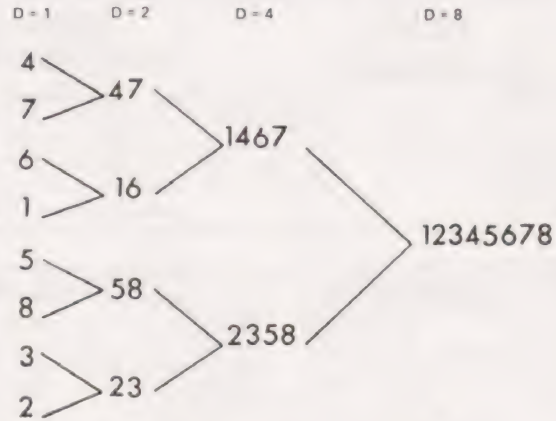
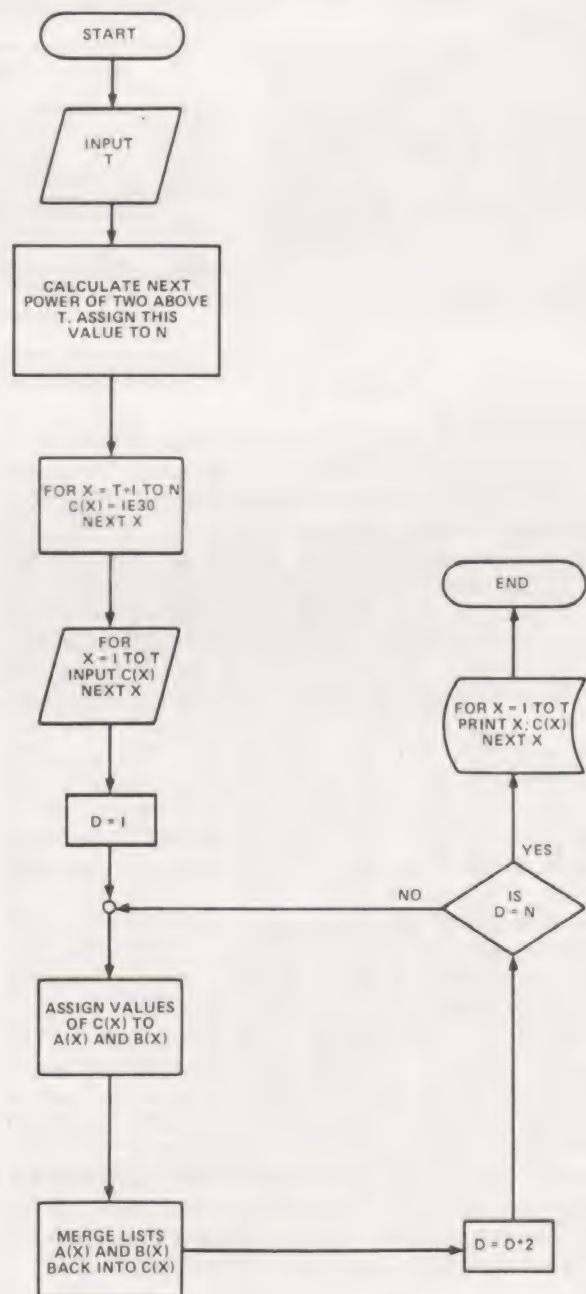

Fig.2. The 'Merge-Sort' process.
Fig.3. The 'Final Programme' flowchart.
We now have two sets of four numbers, each set being in numerical order. The final process is to merge these two lists of four items into one list of 8 items and the sort is complete (see Fig.2). The flowchart of this algorithm is given as Fig.3. The program is given below.
The program starts off by taking an input to the variable T. This is used to tell the program how many items are to be sorted. The next part of the program (lines 30 to 70) calculates the next power of 2 above the input value (T). This value is assigned to the variable N and is the actual number of items that will be sorted. Next items, T+1 To N, are made very large (1E30) so that after sorting they will still occupy positions T+1 TO N in list C(X). The sort now begins. The 'INPUT' list C(X) is first split up into two lists A(X) and B(X) by lines 210-310. This is done in rather a special way. The variable D is used to indicate the number of values in A(X) and B(X) that are to be merged in each step (see Fig.2).
unanswered as this is the last part of the series - maudlin sob) (hearty cheer, really, but you've got to sound sad, haven't you) is to work out the fine details of the above program with the aid of flowchart Fig.3.